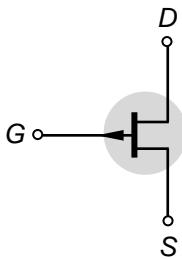

Fig. 3.20: Circuit symbol of a *p*-channel JFET.
- b) The circuit symbol of a *p*-channel JFET is shown in Fig. 3.20.